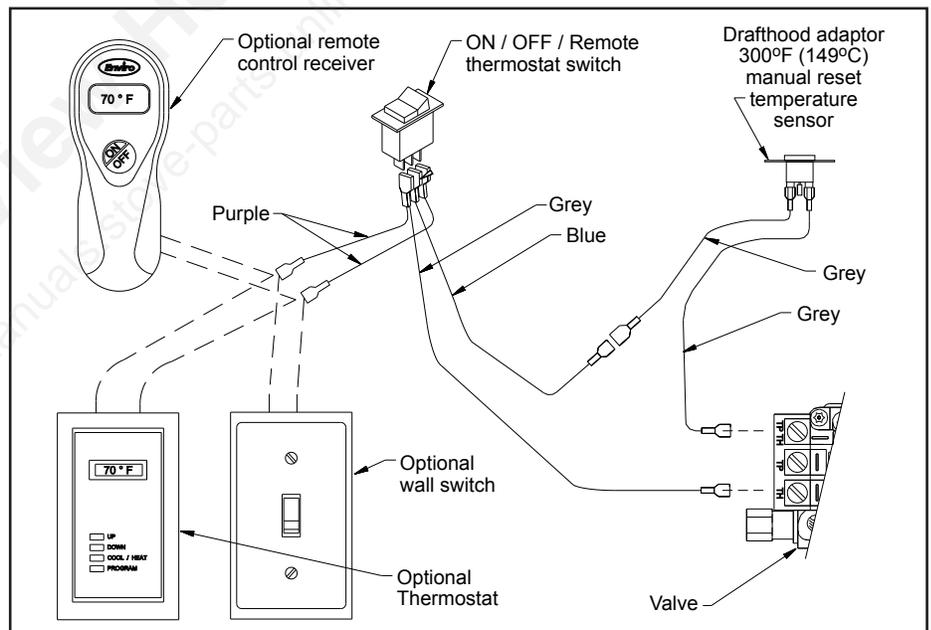

Figure 39: Wiring Diagram for Electrical Connection.
3. Being careful not to run any wiring tight across metal edges; connect them to the valve and "ON/OFF" switch (refer to Figure 39).
The fireplace connections are labelled in Figure 39. When installing the Drafhhood Adaptor onto a fireplace fitted with an optional wall switch or an optional thermostat, remove one wire from the switch to the gas valve and connect the Drafhhood Adaptor harness as shown in Figure 39.
2. Disconnect the spill switch wires from the valve and on/off/remote rocker switch wire (see Figure 39).